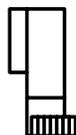

Figure 32. Maximum number of sample vials with one solvent bottle and a 10-µl syringe
1. Go to the **S** table in Figure 32. In the left-hand column, find the largest number of solvent washes you need from a solvent bottle. If you use a tray, you can divide the solvent washes between *both* waste bottles.
1. Go to the **S** table in Figure 32. In the left-hand column, find the largest number of solvent washes you need from a solvent bottle, **answer (3)**.
2. Read across this row to the column indicating the number of injections you are taking from each vial, **answer (2)**.